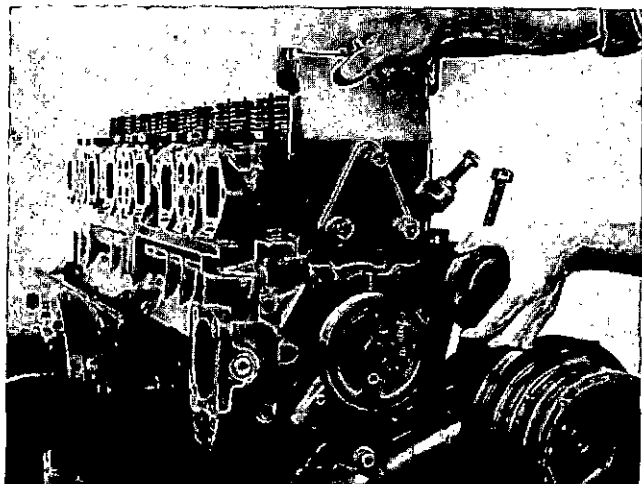

Fig. 14-51 (N114271). Install The Water Pump And Idler Pulley.
1. Install the water pump and idler assembly and a new gasket to the cylinder block, Fig. 14-51.